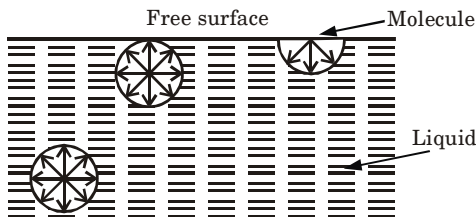

Fig. 1.6.1.
3. This occurs due to the force of cohesion at the free surface as shown in Fig. 1.6.1.